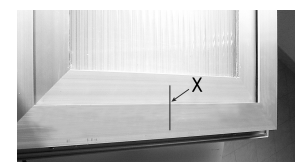

Figure 2
- A. Trace centrepont X in pencil onto the window frame (Fig.2) or fairly divide it in case of use of more Syncro³.